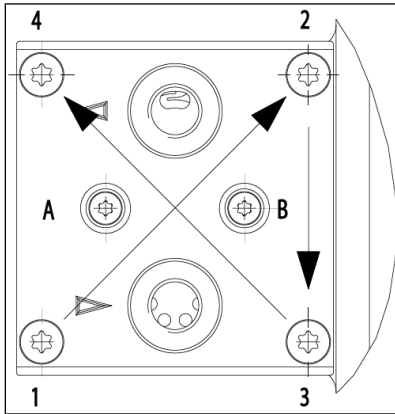

Fig.5 Tightening cap head screws
1. Remove the valve plates/seals (12) from the intermediate plate (6).
2. Check the valve seats, intermediate plate (6) and head plate (5) for soiling and damage. Clean the parts if necessary.
4. Insert the new valve plates/seals (12) in the valve seats of the intermediate plates (6).
5. Place the head plate (5) on the intermediate plate according to the felt-tip pen marking.
6. Check the centering of the head plate (5) by means of a slight lateral movement.
7. Connect head plate (5) and intermediate plate (6). To do this, screw in screws (3; Fig. 5: A + B) with disc spring (11) and shim rings (10) until the screw head is seated flat, i.e., until the first resistance is encountered. Apply a small amount of thread locker (Loctite 222 or comparable product) to the threads of the screws.
2. Place the pressure plate (4) on the head plate according to the felt-tip pen marking.
3. Screw in the screws (1) with disc spring (11) and slightly tighten them crosswise in the order 1-2-3-4 (see Fig. 5) with 1 Nm.
5. Tighten the screws (1) with disc spring (11) crosswise in the order 1-2-3-4 (see Fig. 5). Tightening torque: 2.1 Nm.
6. Then tighten the screws (3; Fig. 5: A + B) another quarter turn (tightening torque: 30 Ncm) and mount the screw covers (2).